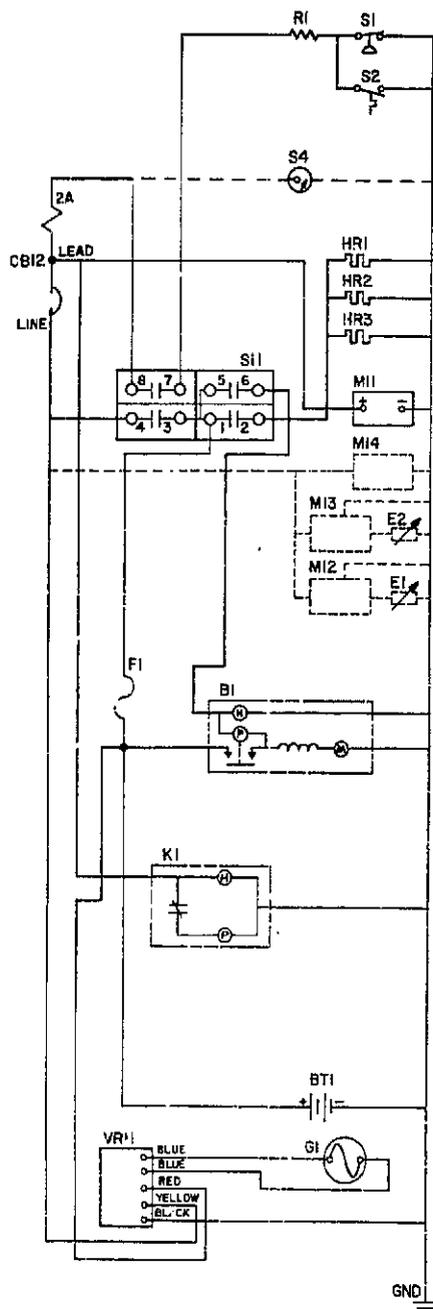

FIGURE 3-4. ELECTRIC START CONTROL SCHEMATIC DIAGRAM
Figure 3-4 shows a schematic diagram for the circuits described in the following Starting, Start-Disconnect and Stopping sequences. Relay contact references normally open (NO) and normally closed (NC) refer to position of contacts with the unit at rest (not energized).
Starting Sequence: When the control key switch S11 is in the Preheat position, contacts 1-2 connects B+ to the glow plug heaters. See Figure 3-4.